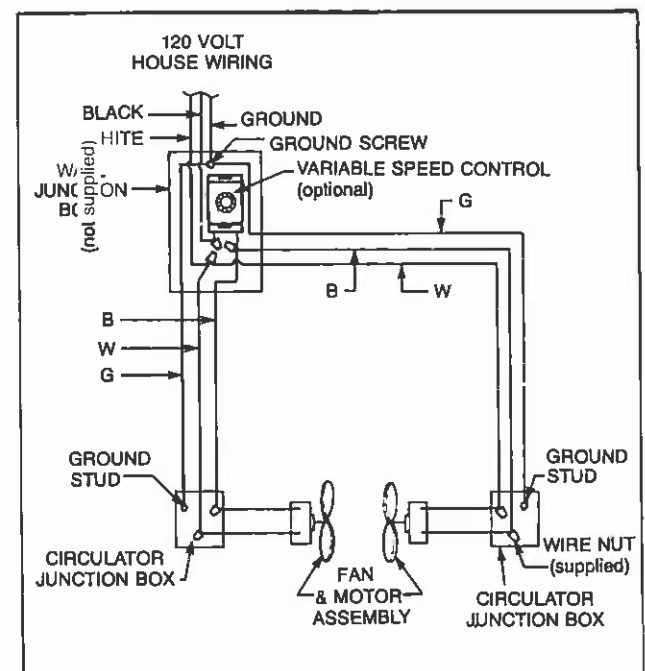

Fig. 25 Wiring Diagram.
The fans require 120 VAC, 60 Hz power available at each side of the SuperCirculator. This should already be available through the electrical conduits installed when the foundation was constructed. If not previously installed, determine location for wall switch. Install standard 2 inch deep electrical box and run wiring from both fans to that point. Install green ground screw, provided in bolt bag, in junction box for attachment of ground wire as indicated in Figure 25. Assure that bonding is maintained between junction box, conduit, and ground wire. A single listed 15 amp and 125 volt wall switch should be used.
Remove grilles from both sides of unit, exposing fans and field supplied wiring previously installed, if not previously mounted, install conduit clamp and secure nut to retain. Starting on one side of the unit, connect the ground wire from the power to the ground stud on the exterior wall of the enclosure with one of the supplied retaining nuts. Feed the two (2) black fan leads through the grommeted hole in the top of the junction box cover. Using the supplied wire nuts, connect the ends of the white and black power leads to the fan leads, making sure the wire nuts are tight to the leads. Position junction box cover against bottom back and side of compartment, enclosing wire connections. Secure in place with screw provided through flange on front of junction box cover. Refer to Fig. 25 for wiring diagram.